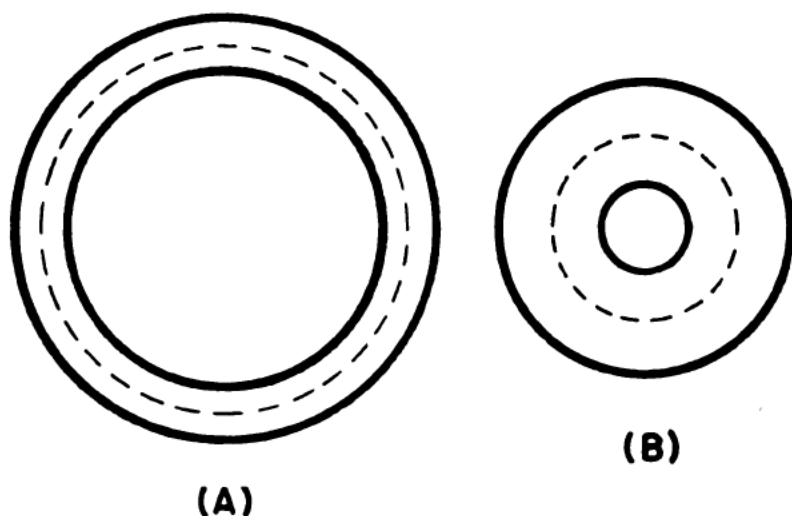

Figure 4.—Thin and thick-walled tubes.
Figure 4 shows two tubes, one thin-walled, the other thick-walled. Both (A) and (B) of figure 4 are of the same material, length and weight. The radius of (A) however is TWICE that of (B) and the wall thickness of (A) is HALF that of (B).